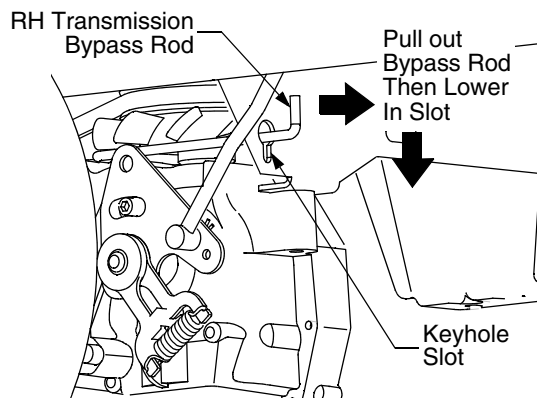

Figure 24
- From just in front of the two rear tires, locate the transmission bypass rods. See Figure 24.